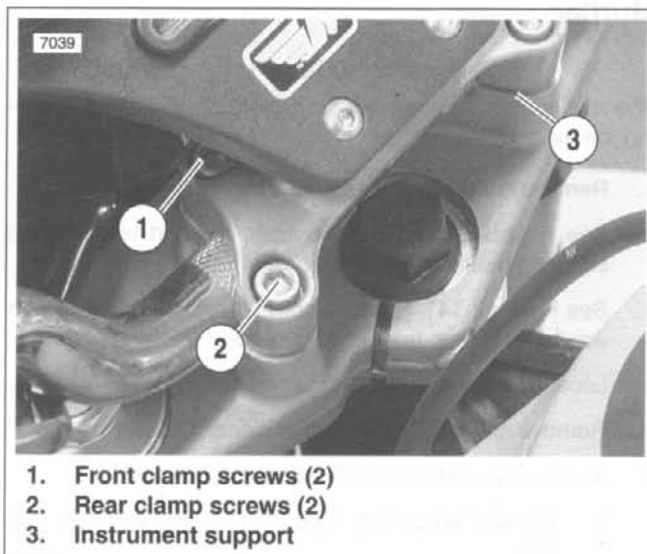
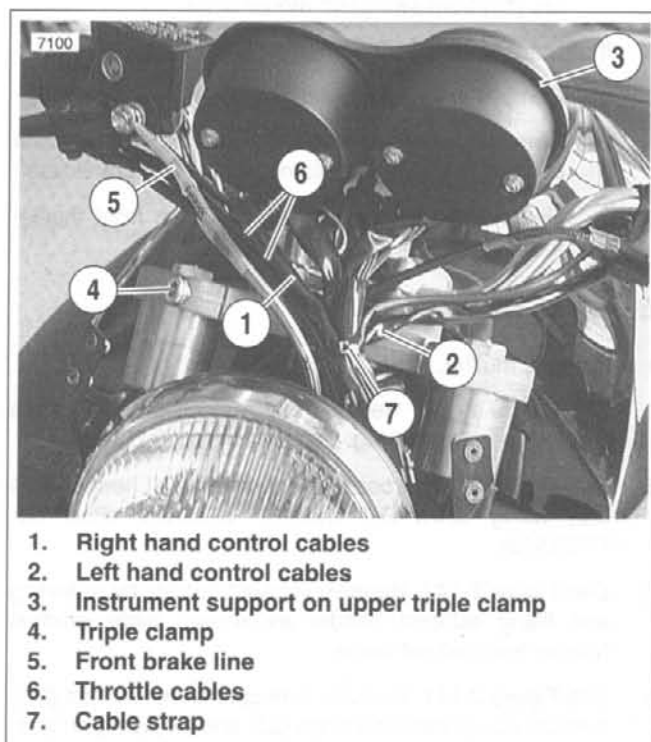

Figure 2-137. Instrument Support Screws
Figure 2-138. Routing Hand Control Wires
6. See Figure 2-137. Remove four screws (1, 2) from instrument support (3).
- a. See Figure 2-137. Lift instruments and place handlebars under instrument support. Loosely install four screws (1, 2).
- b. Tighten both front screws (1) to 10-12 ft-lbs (13.6-16.2 Nm).
- c. Then tighten both rear screws (2) 10-12 ft-lbs (13.6-16.2 Nm).
- a. See Figure 2-138. Route right hand control wires (1) in front of handlebar and triple clamp (4).
- b. Route left hand control wires (2) in front of handlebar and triple clamp (4).